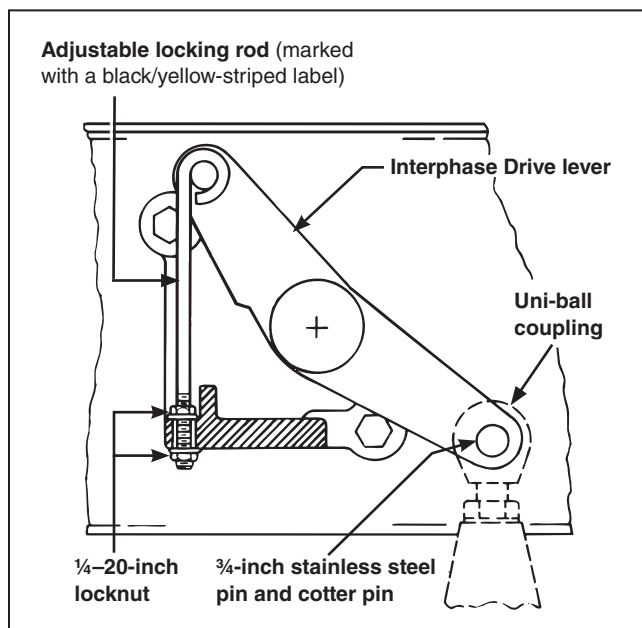

Figure 21. Attaching the Uni-ball coupling to the interphase drive lever.
- STEP 1.** Attach the uni-ball coupling on the operator connecting link to the interphase drive lever in the high-speed base using the $\frac{3}{4}$ -inch stainless steel pin and cotter pin retained from Step 1 on page 14. See Figure 21. An adjustable locking rod (marked with a black/yellow-striped label) is furnished factory-connected to the interphase drive lever. Turn the associated $\frac{1}{4}$ -20 locknuts as required to raise or lower the interphase drive lever and thus facilitate insertion of the stainless steel pin.
- STEP 2.** Remove the lower $\frac{1}{4}$ -20 locknut that retains the adjustable locking rod, and remove and discard the adjustable locking rod and locknuts. See Figure 21.